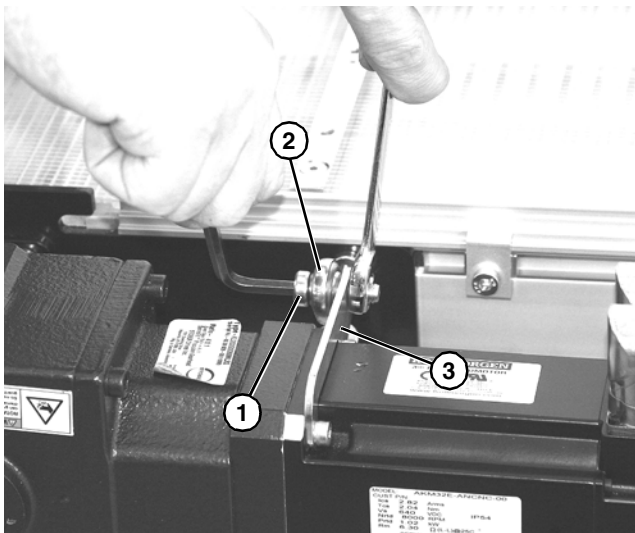

Figure 60
4. Remove socket head bolt (**Figure 60, item 1**) and nut on top of anti-rotation adjustable rod (**Figure 60, item 2**) securing motor to bracket (**Figure 60, item 3**).